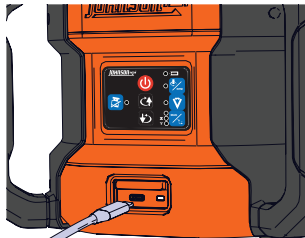

Figure 2
2. Connect the Type C, USB adapter/charger to the rotary laser recharge port. (Figure 2)